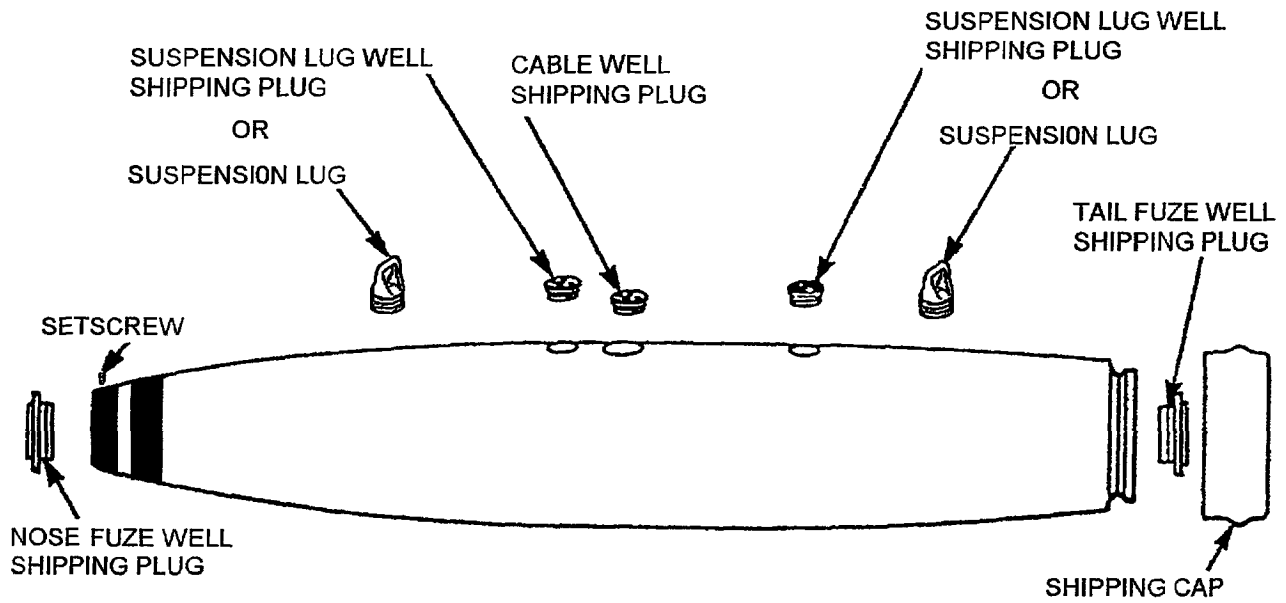

Figure 5-8B. Bomb Preparation for Storage
- Using PPE per MSDS, lightly grease threads in nose and tail fuze wells (Figure 5-8B).
- c. Install both nose and tail fuze well shipping plugs (Figure 5-8B) and hand-tighten.
- e. Install setscrew previously removed (Figure 5-8B).
- h. Using PPE per MSDS, lightly grease threads in cable well and install cable well shipping plug (Figure 5-8B).